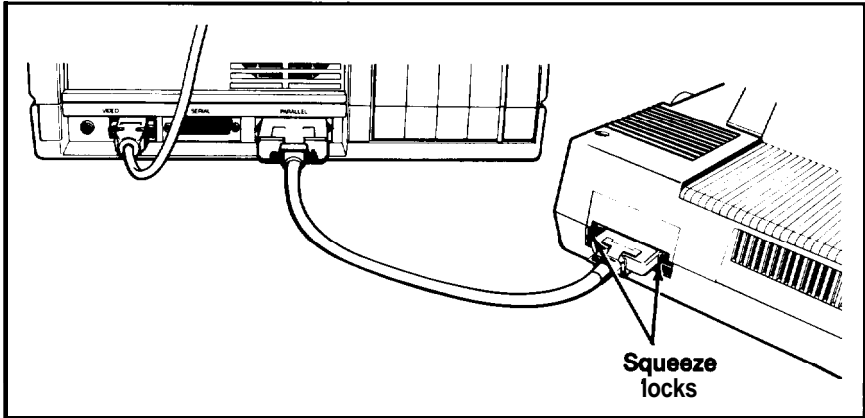

Figure 1-10. Connecting a printer
4. Connect the other end of the cable to the printer. To secure the cable, tighten the squeeze locks at each side of the printer port and push them into the connectors on each side of the cable. Figure 1-10 shows how to connect the cable to the printer.